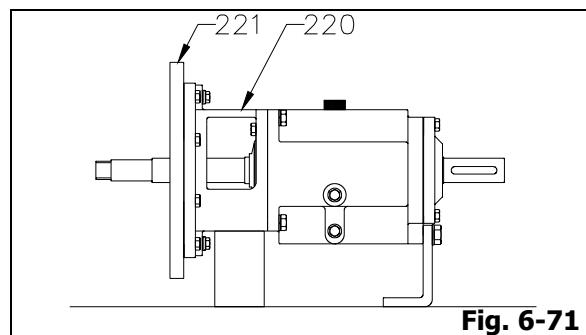

Fig. 6-71
1. For pumps furnished with adaptor extension ring (221), install adaptor extension ring (221) onto frame adaptor (220). Align bolt holes and install eight (8) or twelve (12) adaptor extension ring bolts. Tighten bolts evenly (Fig. 6-71).